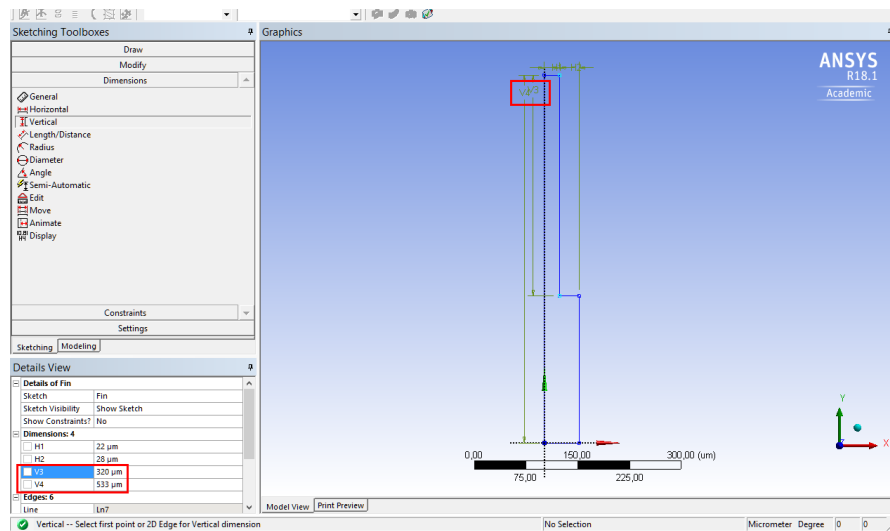

Figure 11: Set the vertical dimensions of the finned profile.
- Within the *Dimensions* Toolbox in the Sketch menu, select now Vertical () and set the dimensions of the overall height of the heat sink ( $H = 533 \mu\text{m}$ ) and of the height of the water channel ( $H_c = 320 \mu\text{m}$ ), like in figure 11.